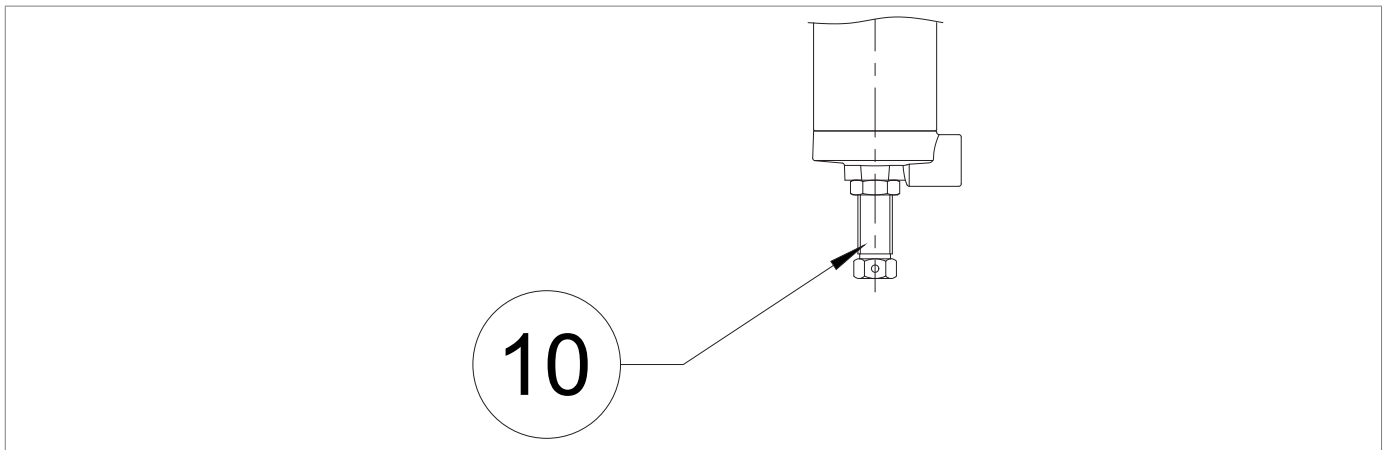

Fig. 8.25. 200/A series pilots
Turn the adjusting screw (10) in Fig. 8.25 to set the value for the maximum calibration pressure:
Turn the adjusting screw (10) in Fig. 8.25 to set the value for the minimum calibration pressure:
15	Lock the adjustment screw (Fig. 8.25, ref. 10) with the pilot fastening nut (3).